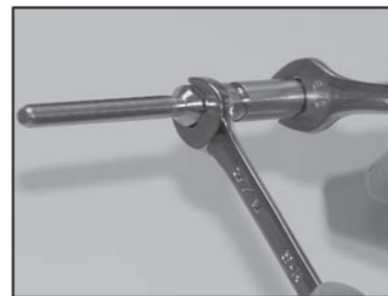

Figure 9
- Step 7 – Tighten the threads to a minimum torque of 23 Foot/lbs. to ensure proper grip on wire. See figure 9.